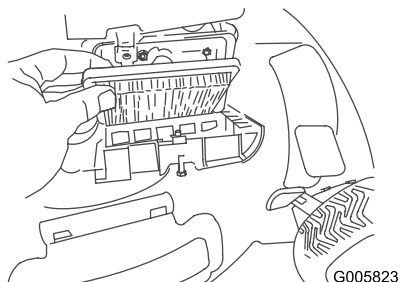

Figure 29
2. Replace the air filter (Figure 29).